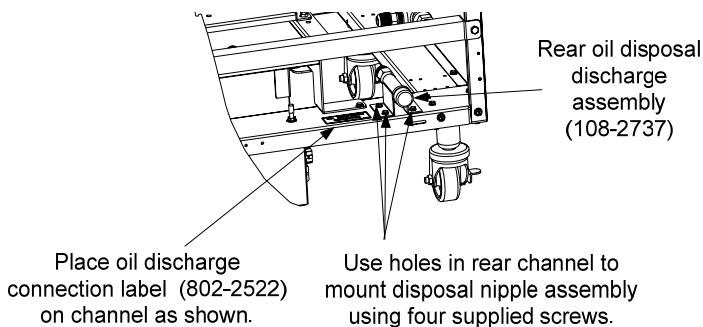

Figure 1: Attach the oil discharge nipple assembly and label.
4. Use existing holes and install the enclosed oil disposal discharge nipple assembly (108-2737) with provided screws. See Figure 1. (**Note:** It may be necessary to drill four 5/32" pilot holes to attach the screws.)
5. Place oil discharge label (802-2522) next to the oil discharge connection shown in Figure 1.